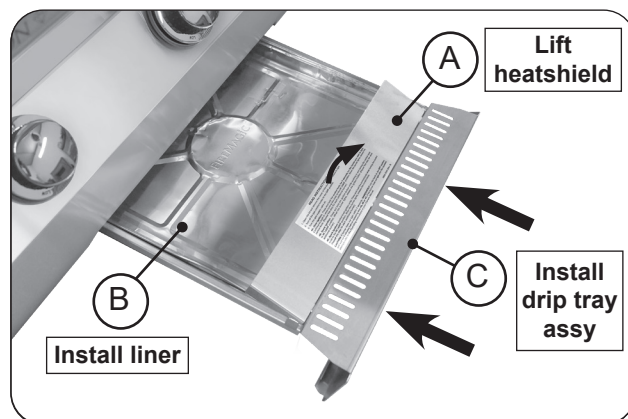

Fig. 22-3 Install drip tray
2. Insert the rear pointed-end of the lifter between the same two rods (Fig. 22-2, B) and carefully lift the cooking grid and place onto the front and rear grid rests of the grill (see Fig. 22-3). Repeat for all other cooking grids.